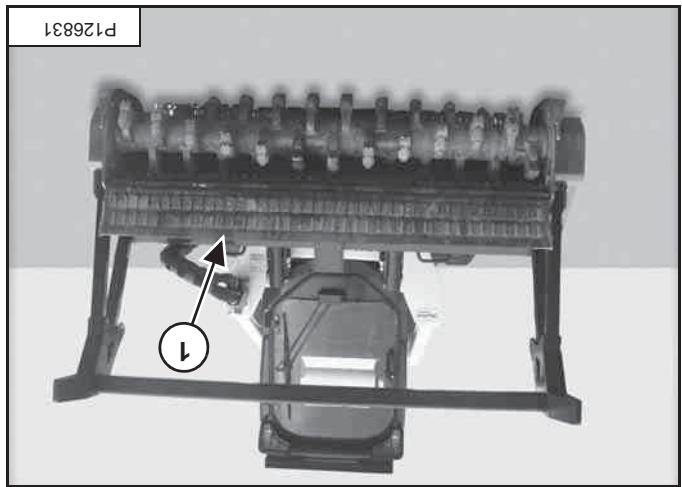

Figure 91
Raise the lift arms approximately 305 mm (12 in) and tilt the Bob-Tach forward until the drum is approximately 25,4 mm (1 in) off the ground [Figure 91]. Drive the loader rearward, raise and lower the forestry cutter in response to the loader engine rpm and proceed at a slow speed [Figure 91].
NOTE: Closing the gate reduces the size of material raised the lift arms approximately 305 mm (12 in) and tilt the Bob-Tach forward until the drum is approximately 25,4 mm (1 in) off the ground [Figure 91].
Closing the gate (item 1) [Figure 91] to retain as much material as possible.
Close the gate (item 1) [Figure 91] to retain as much material as possible.